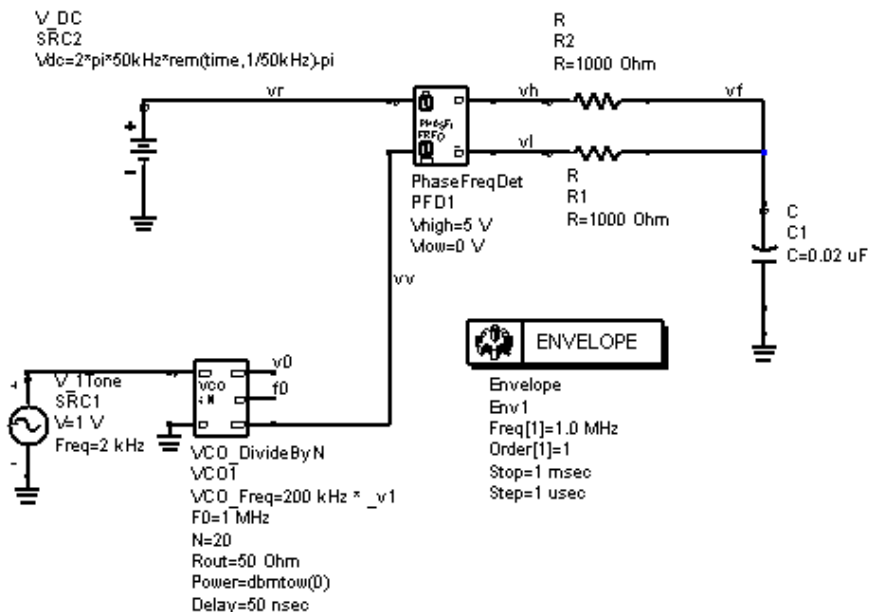

Figure 5-3. PhaseFreqDet Example
5. This model does not include any effects due to the finite duration of the flip-flop reset pulse and resultant zero-phase dead zone. Other effects, such as asymmetry between the two different outputs, can be incorporated by changing the external components. Figure 5-3 shows an example using this detector; Figure 5-4 shows the output waveforms.